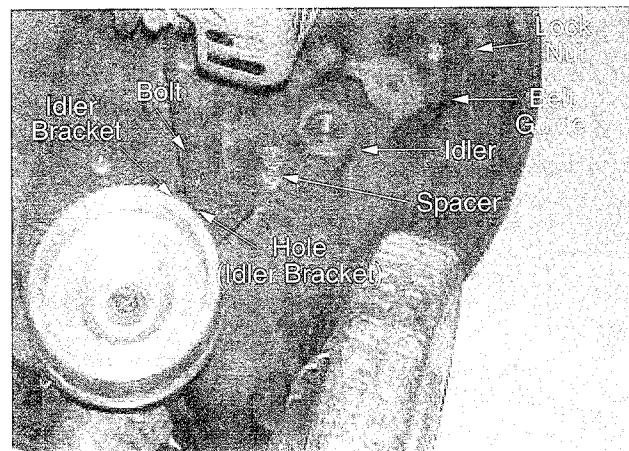

Figure 23
3. Remove the idler from idler bracket using 7/16" wrench and socket. See Figure 23.